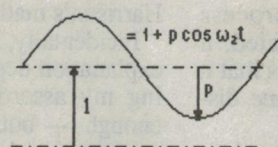

Fig. 2
*shows a phasor diagram of the carrier and the two sidebands, with the carrier frequency as the reference phasor at one point in time. As the carrier is the reference, the lower sideband will be rotating slower than the carrier and the upper sideband rotating faster. Therefore at the next instant in time the upper and lower sidebands will be as Fig.2. As the sidebands are both opposite in amplitude to the carrier, they both subtract from the carrier amplitude to produce the decrease in amplitude we see on the CRO.*
If the carrier has its normal amplitude in the absence of modulation this implies that there must be a d.c. component in the audio signal equal to the normal amplitude of the carrier so that the total modulating signal is  $1 + p \cos \omega_2 t$ . [Fig. 2]